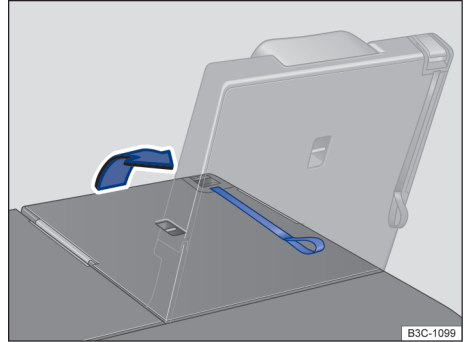

Fig. 3 Third row seat: folding the rear seat back.
2. To fold the rear seat backrest back, pull on the loop on the rear seat backrest → fig. 3.